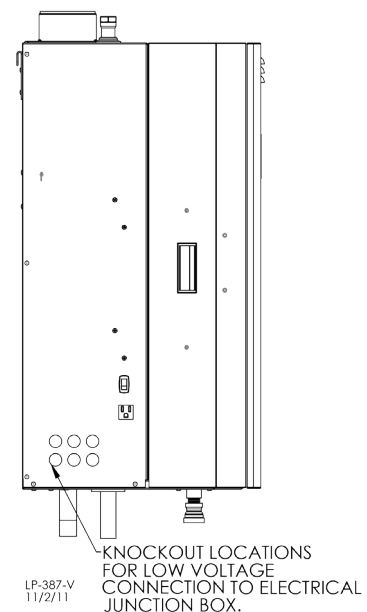

Figure 26 - Knockout Locations
Condensate from the boiler is slightly acidic with a pH of 3.2 - 4.5. To avoid long term damage to the drainage system and to meet local code requirements, HTP recommends neutralizing condensate with a Condensate Neutralizer Kit (Part # 7450P-212 for the 285 model, Part # 7350P-611 for the 399 model). The neutralizer kit connects to the drain system and contains limestone chips that neutralize the pH level of the condensate. The neutralizer kit should be checked annually and the limestone chips replenished if necessary. When replacing the limestone chips, take care to ensure chips are no smaller than 1/2" to avoid blockage in condensate piping (refer to Figure 26 for piping of the condensate neutralizer.)
5. Run condensate drain hose to 1" PVC or CPVC drain pipe. See Figure 26.